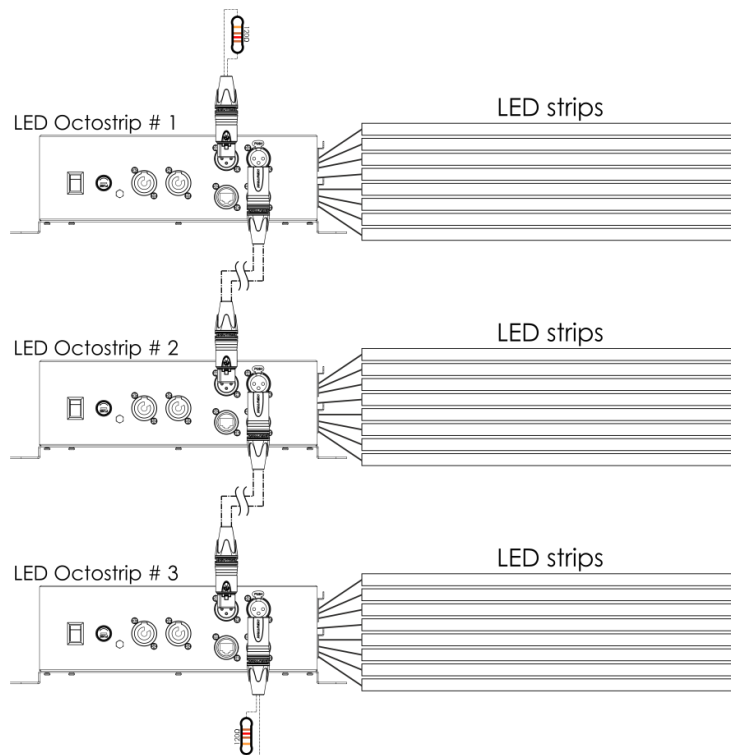

Fig. 04
- 03) Link the units as shown in fig. 04. Connect the first unit's DMX "out" socket with the second unit's "in" socket, using a DMX signal cable. Repeat this process to link the second, third, and fourth units.